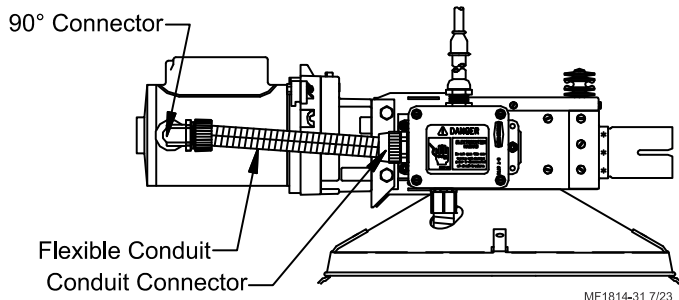

Figure 30. Conduit Installation
6. Single Phase: Install the 90 degree connector, flexible conduit, electrical wire, and conduit connector as shown in **Figure 30**.